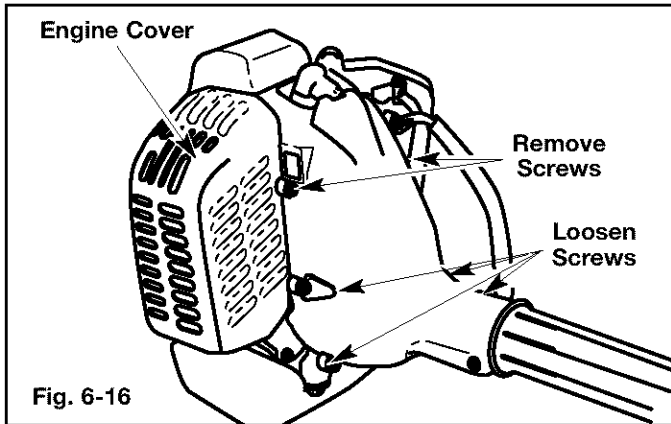

Fig. 6-16
1. Loosen the four (4) screws shown in figure 6-16.
2. Remove the three (3) screws that secure the engine cover (Figs. 6-16 and 6-17).
5. Remove the engine cover (Fig. 6-16).